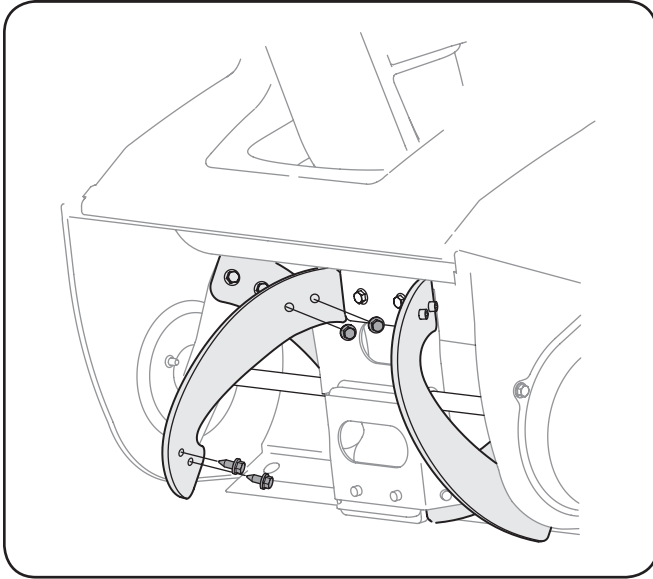

Figure 7-3
1. Remove the existing rubber paddles by unthreading the self-tapping screws which secure them to the auger. See Figure 7-3.